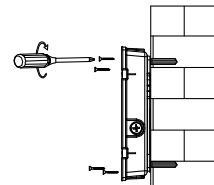

Figure 15
10. Using three (3) anchor bolts (not included), secure the back plate to the wall. (see Fig. 15)